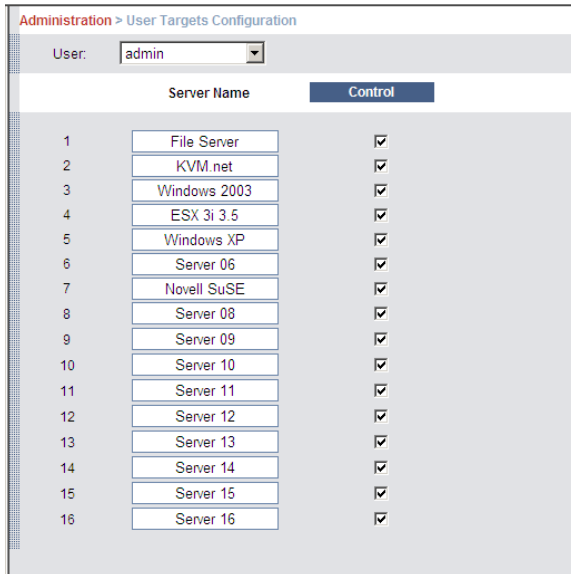

Figure 18 User Targets Configuration
1. From the menu click **User Targets**. The **User Targets Configuration** window appears, see Figure 18.